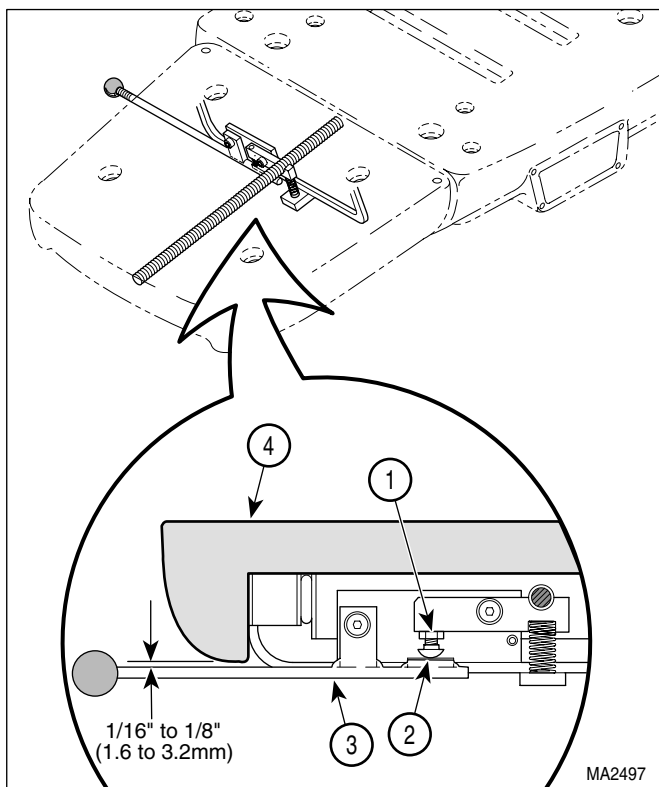

Figure 4-15. Foot Extension Brake Lever Adjustment
- (1) Loosen jam nut (1, Figure 4-15).
- (2) Adjust carriage bolt (2) until there is a 1/16 - 1/8 in (1.6 - 3.2 mm) gap between brake lever (3) and plastic foot section (4).
- (3) Tighten jam nut (1).